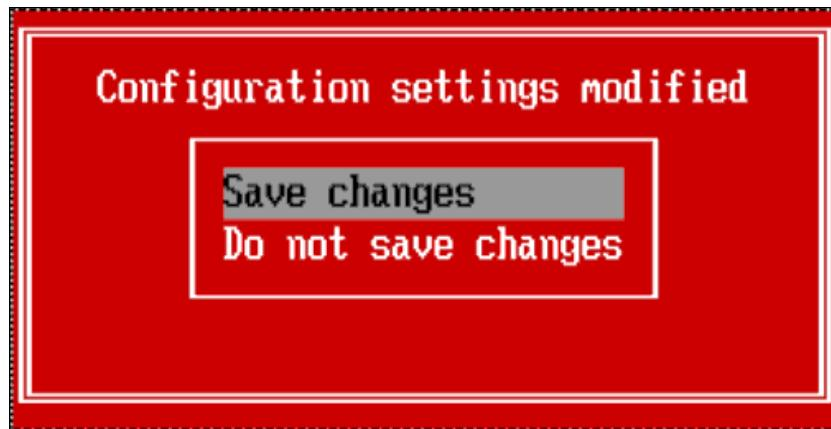

Figure 18-31 Saving the configuration settings
11. Press Esc to return to the previous panel. Press Esc again and you are prompted to save the configuration settings as shown in Figure 18-31. Select **Save changes** and press Enter.